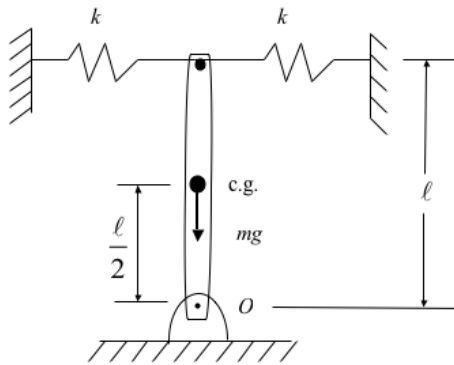

Figure P1.123
- 1.123** Consider the system of Figure P1.123. (a) Write the equations of motion in terms of the angle, θ , the bar makes with the vertical. Assume linear deflections of the springs and linearize the equations of motion. (b) Discuss the stability of the linear system's solutions in terms of the physical constants, m , k , and ℓ . Assume the mass of the rod acts at the center as indicated in the figure.